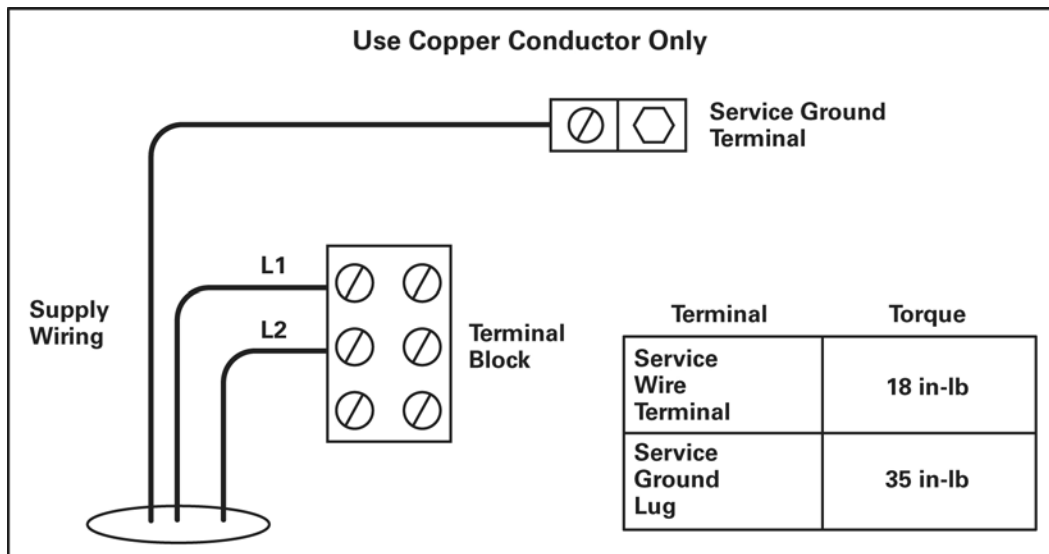

Figure 11 – Service Wiring Terminals
5. Connect the AC supply conductors (L1 and L2) to the upper two terminals in the terminal block (Figure 11) at the lower left of the charger assembly.
6. Connect the ground wire to the service ground terminal (Figure 11) at the lower right of the charger assembly.